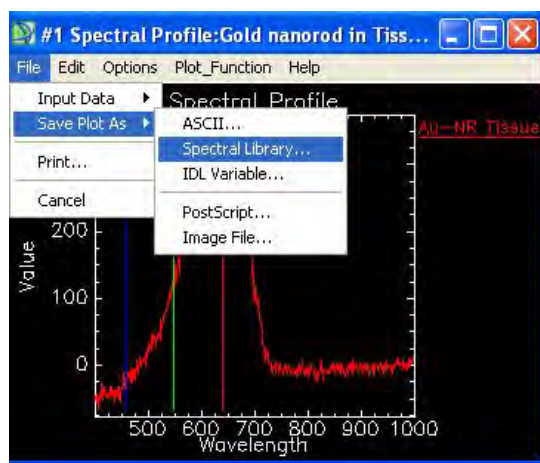

Figure 7. Saving Endmember to Spectral Library File
- b. Then select the Spectral Library (see Figure 7)